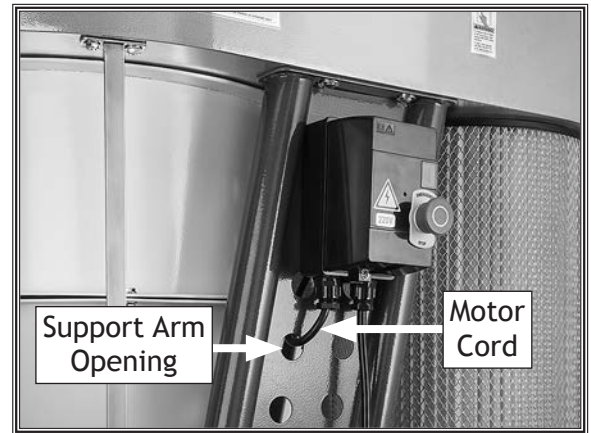

Figure 30. Example of magnetic switch attached to support arm.
- 33. Tuck loose wires into magnetic switch cover so none can be crimped when cover is re-attached, and then replace magnetic switch cover and tighten (2) Phillips head screws loosened in Step 30 to secure.
- 34. Thread motor cord through support arm opening and connect to matching plug from motor under impeller housing (see Figure 30).